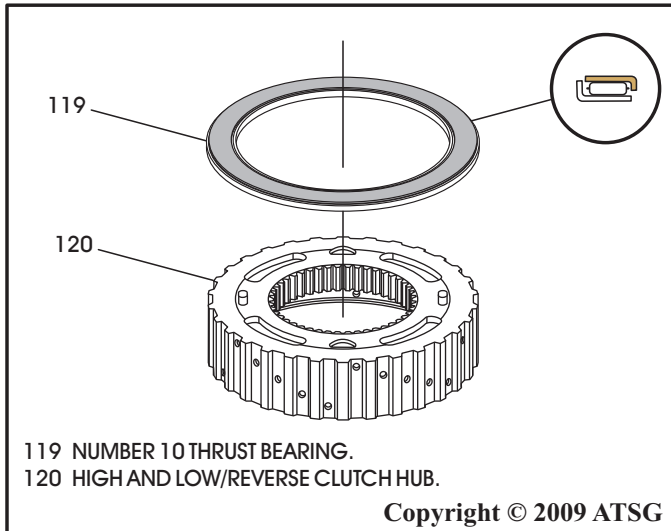

Figure 118
10. Install the number 10 thrust bearing onto the high and low/reverse clutch hub, as shown in Figure 118, with the gold side facing up, and retain with Trans-Jel®.